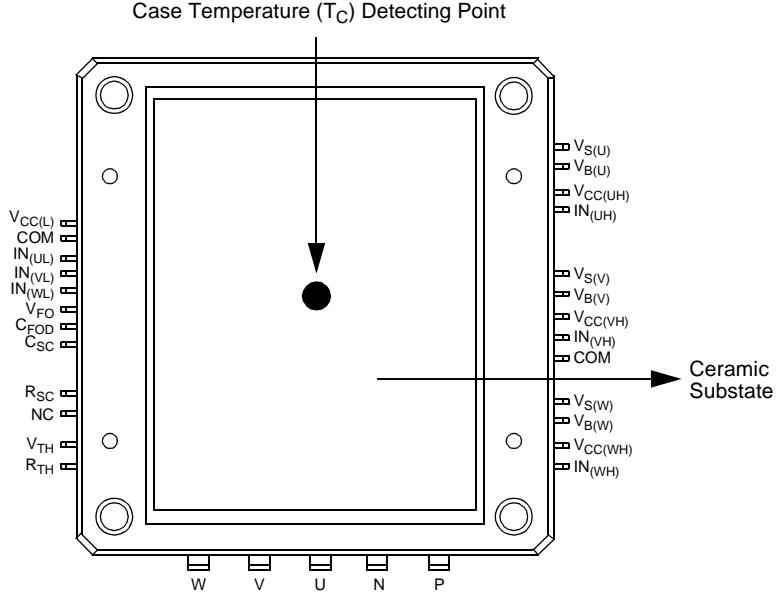

Fig. 4. T_c Measurement Point
| Each IGBT Collector Current | $\pm I_C$ | $T_C = 25^\circ\text{C}$ (Note Fig. 4) | 15 | A |
| Each IGBT Collector Current (Peak) | $\pm I_{CP}$ | $T_C = 25^\circ\text{C}$ (Note Fig. 4) | 30 | A |
| Module Case Operation Temperature | T_C | Note Fig. 4 | -20 ~ 100 | $^\circ\text{C}$ |
2. For the measurement point of case temperature (T_c), please refer to Fig. 4.
| Resistance of Thermistor | R_{TH} | @ $T_C = 25^\circ\text{C}$ (Note Figs. 4 and 7) | - | 50 | - | k Ω | |
| | | @ $T_C = 80^\circ\text{C}$ (Note Figs. 4 and 7) | - | 6.3 | - | k Ω | |